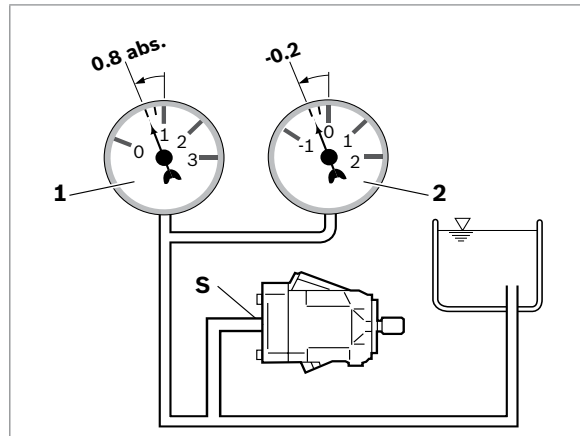

Fig. 6: Suction pressure
- ▶ Make sure that a minimum suction pressure of 0.8 bar absolute is present at port **S** during operation for all installation positions and installation locations of the axial piston pump; see Fig. 6. Please note that the values stated in the data sheet for the maximum speed are valid for a suction pressure of 1 bar absolute at suction port **S**. See data sheet for other pressure values.